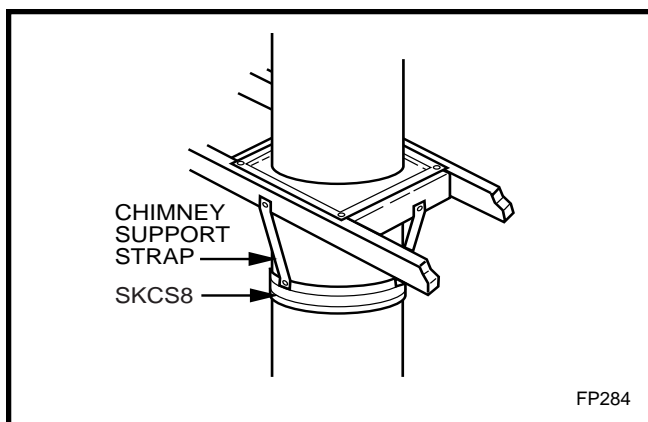

Fig. 9 Chimney support installation
Angled chimney runs require a support every six (6) feet in addition to the elbow straps. Chimney supports are used for this function. (Fig. 9)
If chimney supports are required, they are installed the same as elbows. Nail chimney support straps to adjacent structural framing, as shown on Figure 9, Page 8. Bend straps as necessary and make sure they are secure so they will support the weight of the chimney. A chimney support is 2½" long when installed. Consider this dimension when determining how many straight chimney sections are needed.